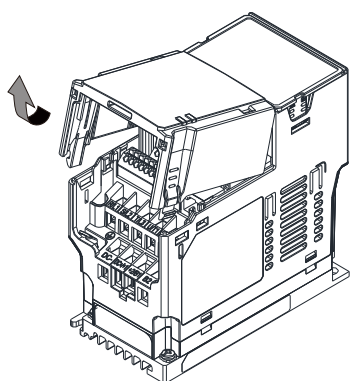

Figure 8-20
1. Turn off the power of the motor drive and then remove the front cover, as shown in Figure 8-20.